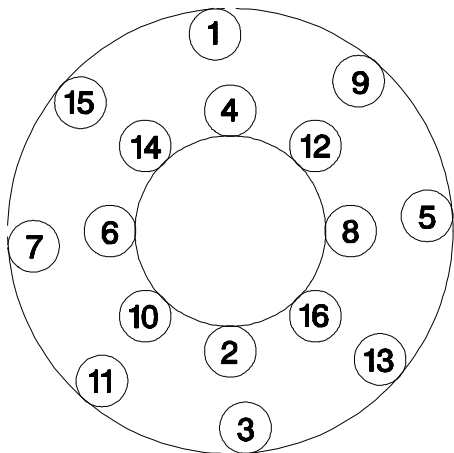

Figure 10
4.5.8 For each wear plate being replaced, follow the tightening sequence shown in Figure 10 for the first 16 screws. The remaining screws may be tightened in any reasonable crosswise pattern. See Table 5 for tightening torques.